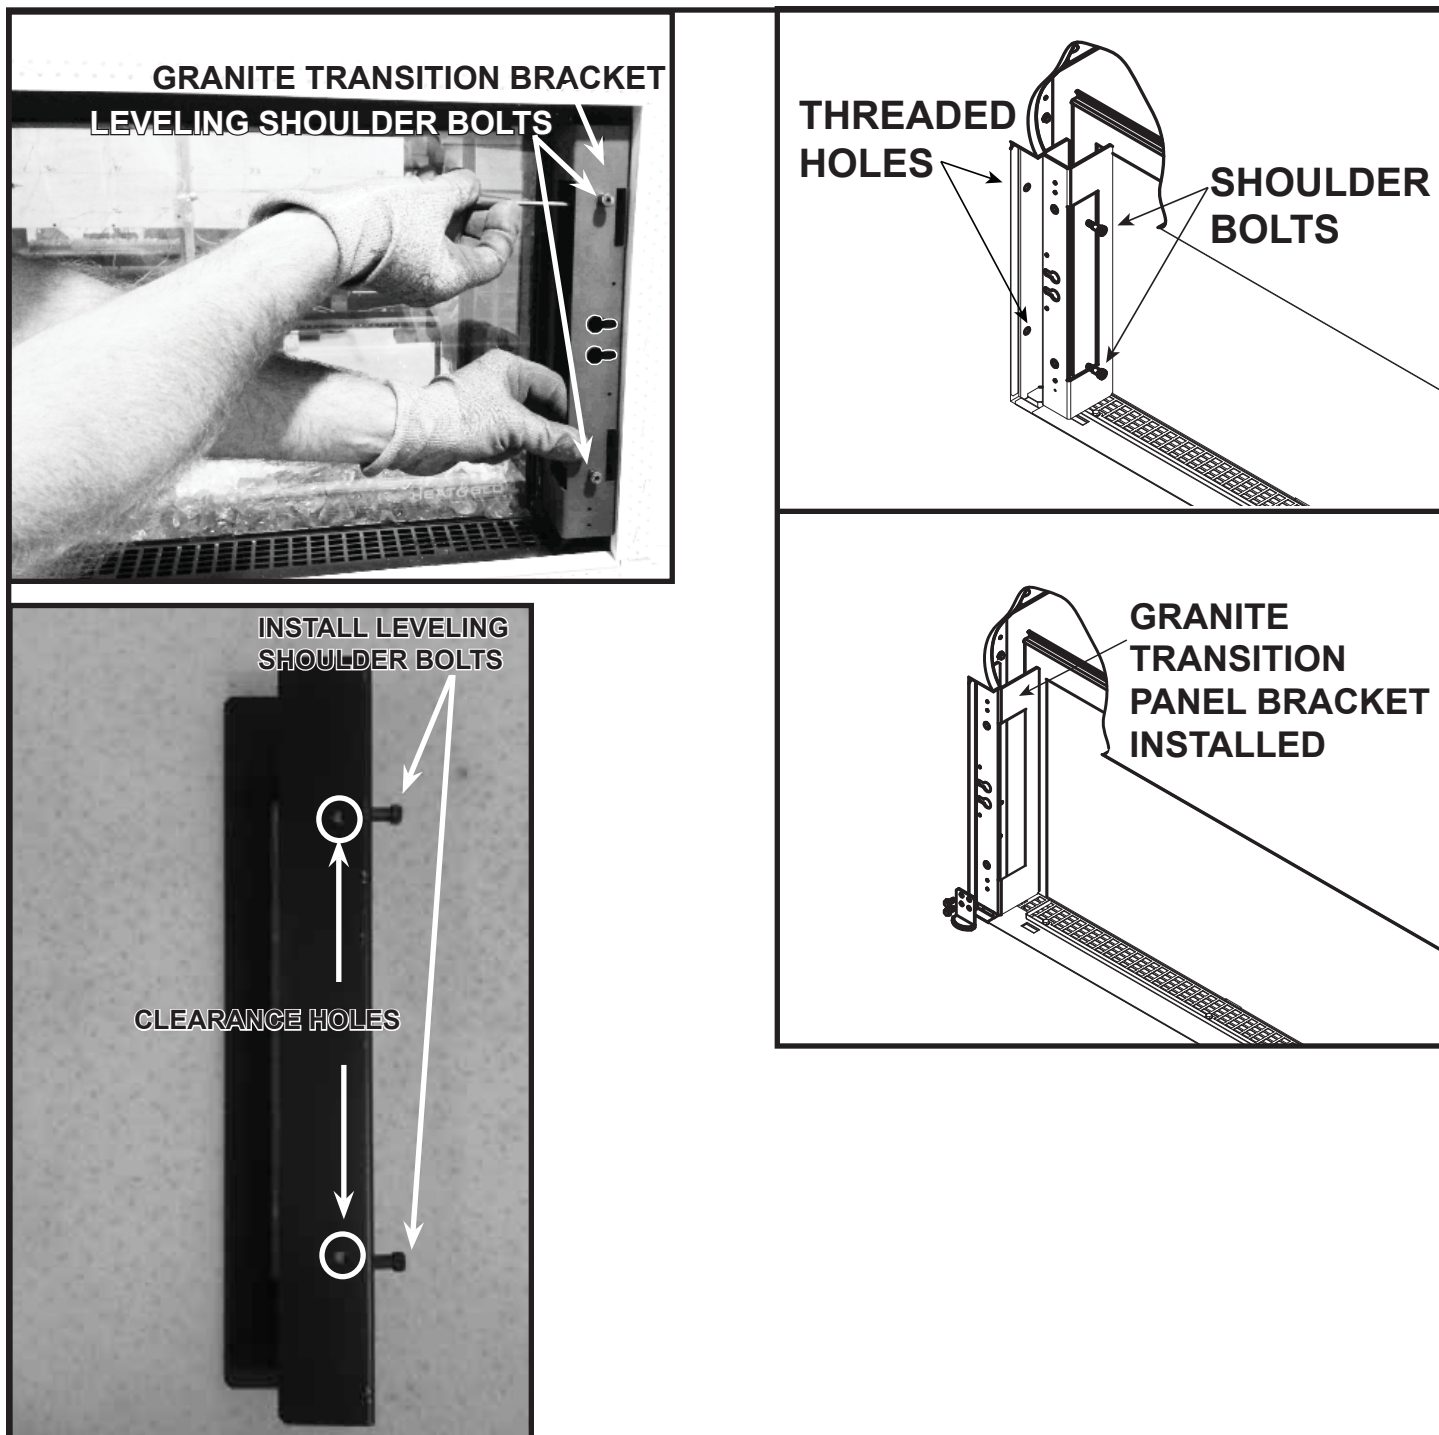

Figure 8. Install Granite Transition Brackets
1. Install leveling shoulder bolts to the granite transition brackets. See Figure 8. The bolts can be used to level the side granite pieces.
2. Install granite transition bracket on left and right sides of appliance opening as shown in Figure 8. Attach brackets with the two shoulder bolts and tighten.